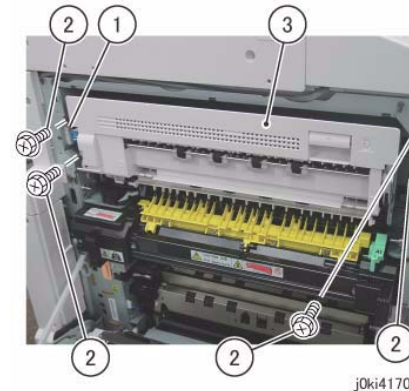

Figure 2 Remove the Exit 2 Assy
7. Remove the Exit 2 Assembly. (Figure 2)